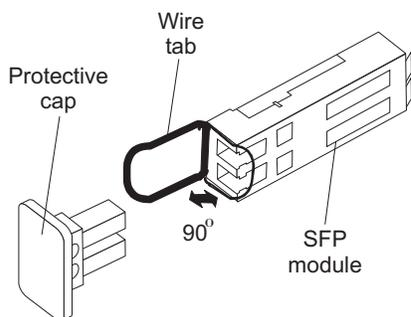

Figure 26. Unlocking the SFP module latch - wire variety
- For SFP modules that contain wire tabs, unlock the SFP module latch by pulling the wire latch outward 90°, as shown in Figure 26 on page 40.